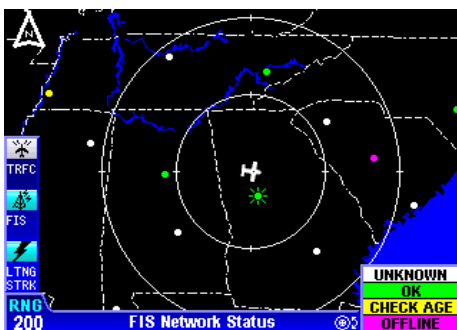

Figure 2-51
1. Press the **WX Function Select Key** until the FIS Graphics Page is displayed. If necessary, turn the Rotary Knob to obtain the FIS Network Status display similar to Figure 2-51. **FIS Network Status** will be displayed at the bottom of the display.